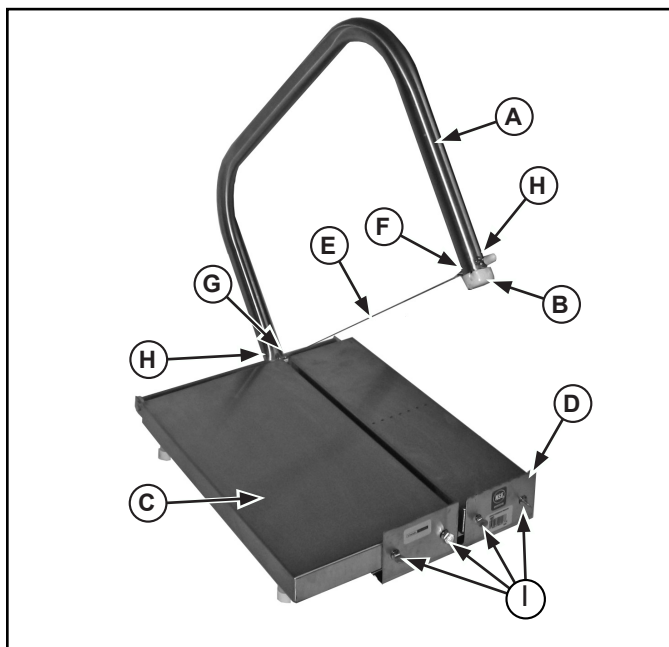

Figure 1. Features and Controls of the Cheese Blocker.
2. Before each use, check that the unit is clean and the cutting wire (E) is in good condition. If loose or broken, the cutting wire must be replaced. See Figure 1.
4. Lift the cutting bow assembly (A) and place the food product on base assembly (C) and against the front plate (D).
5. Using a slow, consistent movement draw the cutting wire (E) through the food product.
1. Loosen the wing nuts (H) holding the eye bolt (F) and the "I" bolt (G). It is not necessary to remove the bolts or wing nuts to replace the cutting wire (E). See Figure 1.
2. Remove and discard the old cutting wire (E).
3. Place the loops of the new cutting wire (E) onto the eye bolt (F) and the "I" bolt (G).
4. Tighten the wing nuts (H) and the cutting wire (E).
See Figure 1.